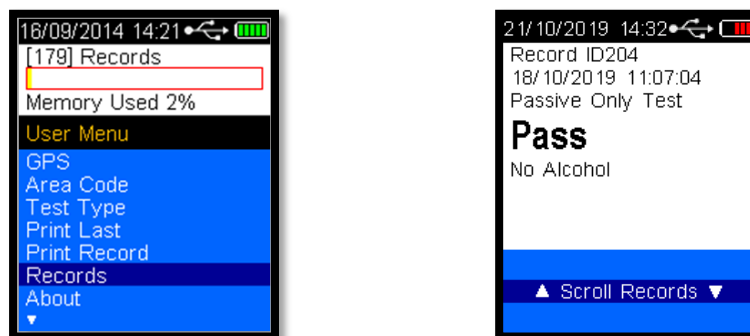

Figure 60 Records Displayed
- Using the down button, scroll down to Records (Refer Figure 60).